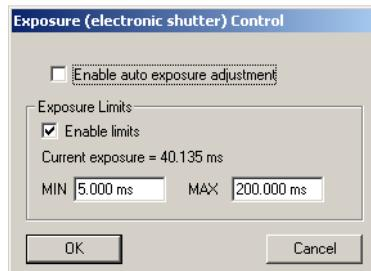

Figure 6.52 Exposure Control settings
28. Using the right-hand mouse button, click on "Exposure time" and in the pop-up which opens, disable the "Enable auto exposure adjustment" option (see figure 6.52).